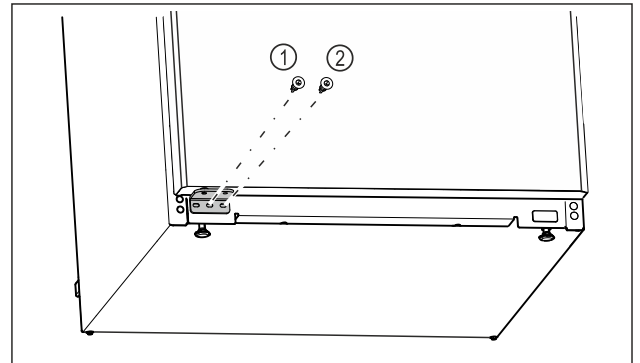

Fig. 26
- ▶ Tighten the middle screw of the swap bearing block Fig. 26 (1) with a Torx 20 screwdriver.
- ▶ Tighten the inner screw of the swap bearing block Fig. 26 (2) with a Torx 20 screwdriver.